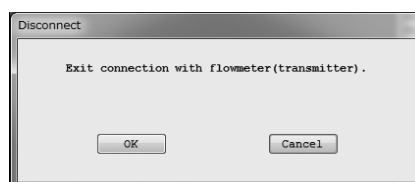

Fig.15
- ② At the message box as shown in Fig. 15, click on "OK". This brings the connection between the flowmeter and LinkTop to come to an end.
- ③ Clicking on "Cancel" abandons the process of terminating the connection.